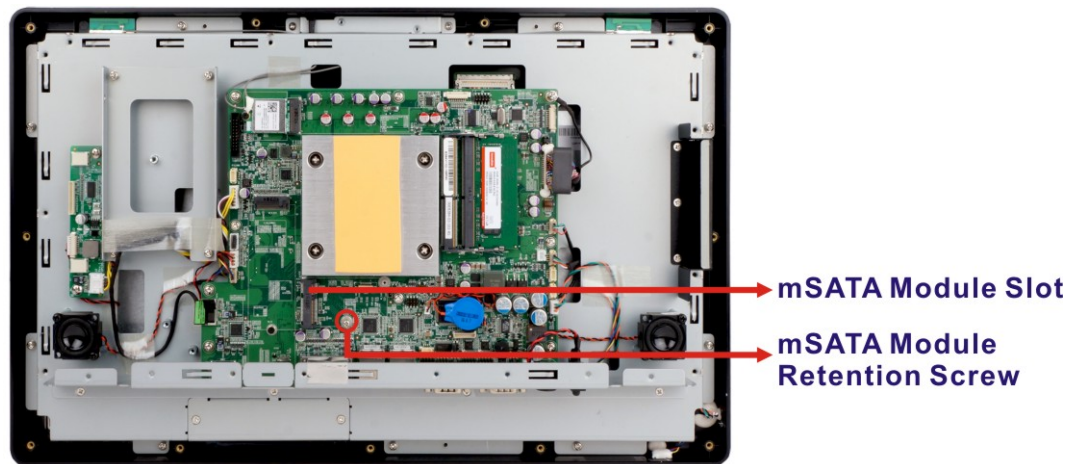

Figure 3-11: mSATA Module Slot Location
- Step 2:** Locate the mSATA module slot. Remove the preinstalled retention screw on the screw pillar as shown in **Figure 3-11**.